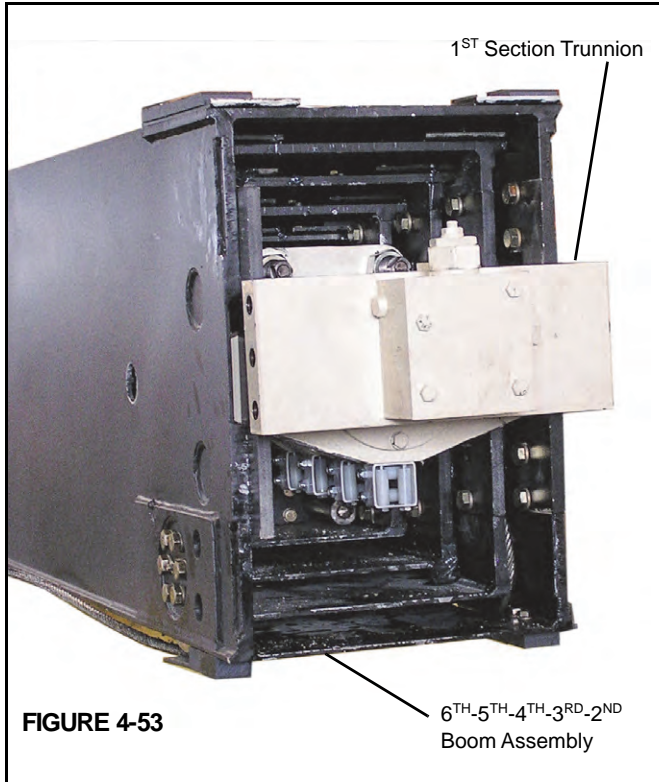

FIGURE 4-53
9. Remove the holding valve from the telescope cylinder and install a plug (Figure 4-53).